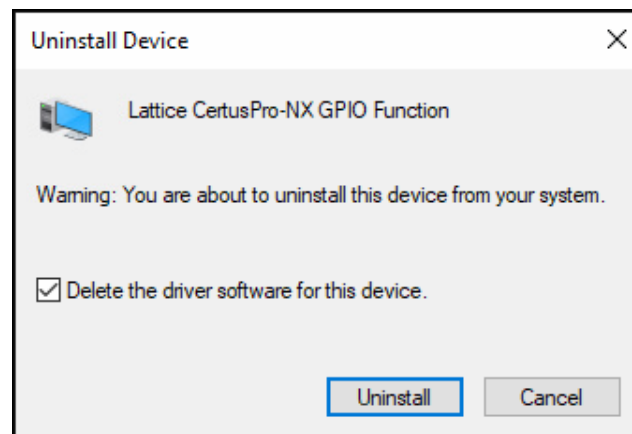

Figure 5.32. Uninstall Device Window
3. Check the option **Delete the driver software for this device** and click on **Uninstall** as shown in Figure 5.32.